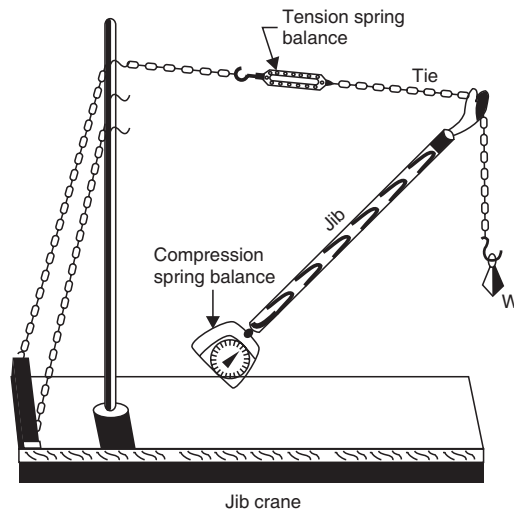

Fig. 3.1
The jib crane apparatus (Fig. 3.1) consists of an inclined wooden rod called the *jib*. At the bottom of the jib end is fitted a compression balance which is pivoted and a hook is attached to the other end from which a chain hangs to carry the weight. A vertical tubular rod is fixed at the base and it carries hooks at different levels. One end of the tie rod is fitted to the jib and the second is attached to one of the hooks of the tubular rod. A spring balance is attached in the tie. The vertical tubular rod is fixed on a heavy base to avoid tilting and is supported for rigidity as shown in Fig. 3.1.
2. Attach the known weight,  $W$  with the chain as shown in Fig. 3.1.